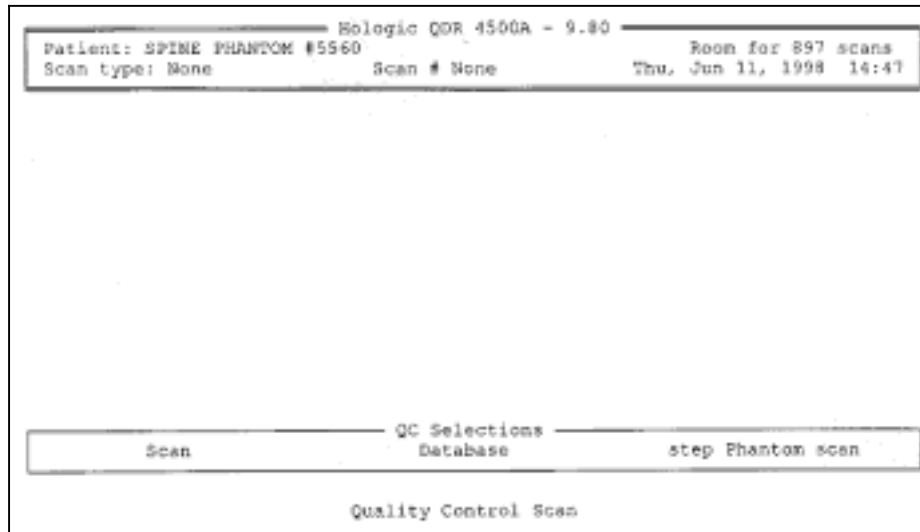

Figure 6-2. Spine phantom quality control
- At ‘QC Selections’ (Figure 6-2), highlight ‘Scan’ and press ‘Enter’ (or type ‘S’) to begin the Spine Phantom QC.